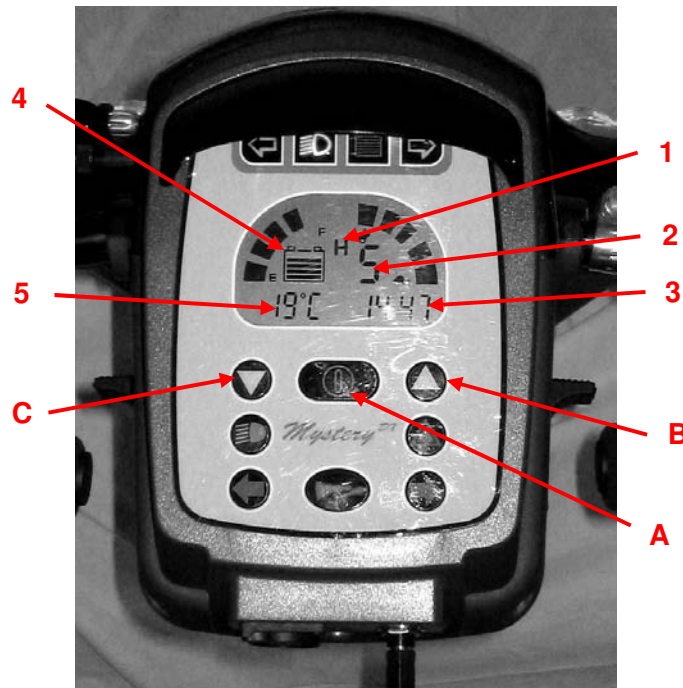

Fig 2
Fig 2 shows details of the visual information panel. This gives various information and control as listed below.
- A) Function Select (Fig 2.A)
- B) Function Increase (Fig 2.B)
- C) Function Decrease (Fig 2.C)